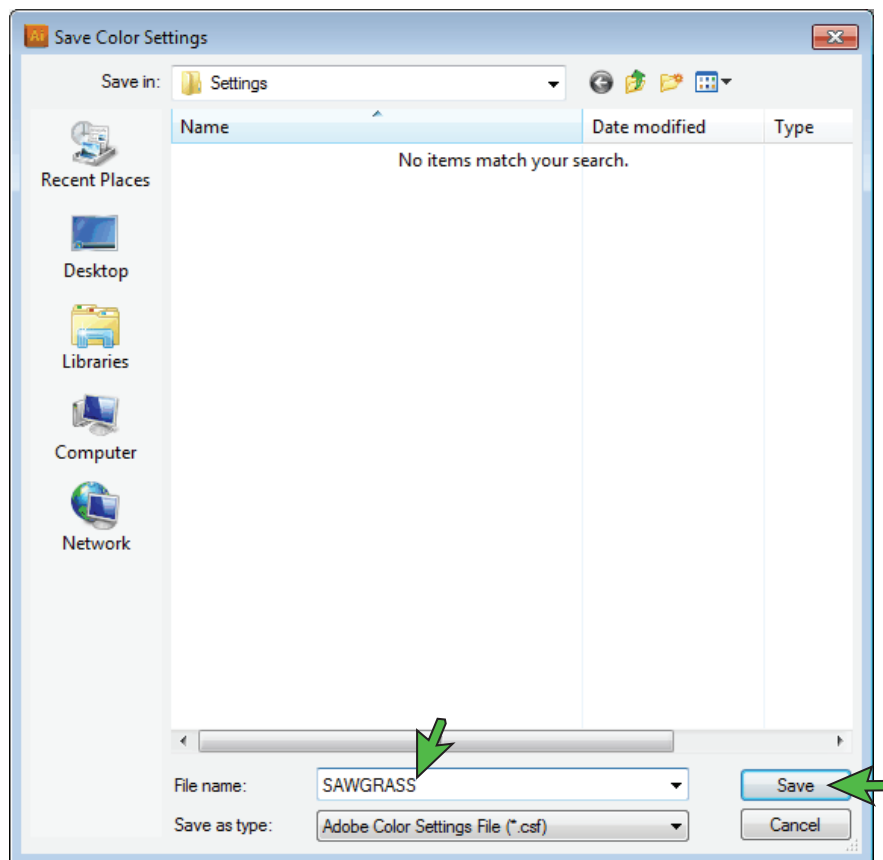

FIGURE 2
- K. Once your settings match, click **Save**. This will open the Save window (see *FIGURE 2*). NAME your new preset in the **File Name** field and click **Save** when complete.